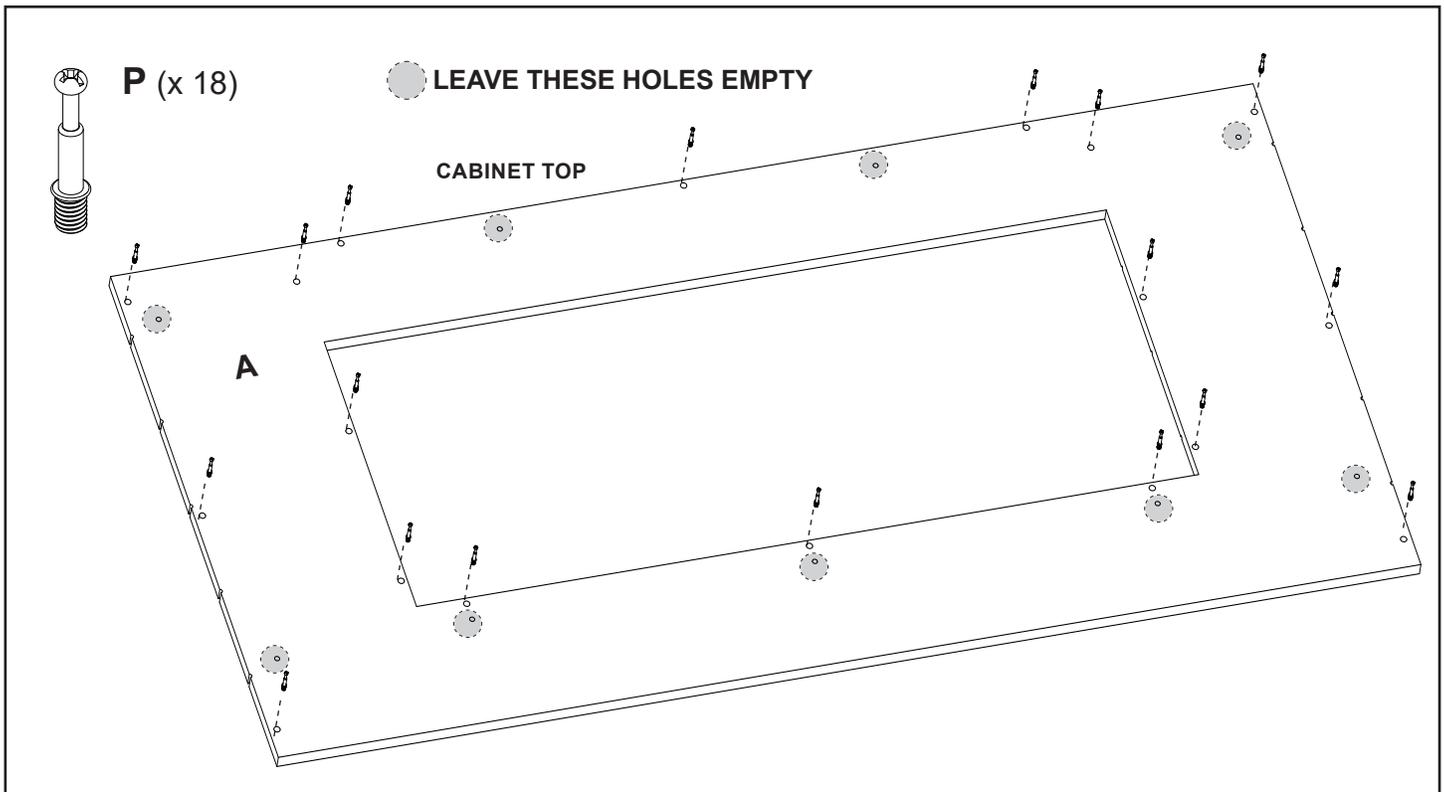

Figure 4
- Install 18 Cam Pins (P) in the location shown in Figure 1. Refer to Step 1 on page 2 and Figure 4.